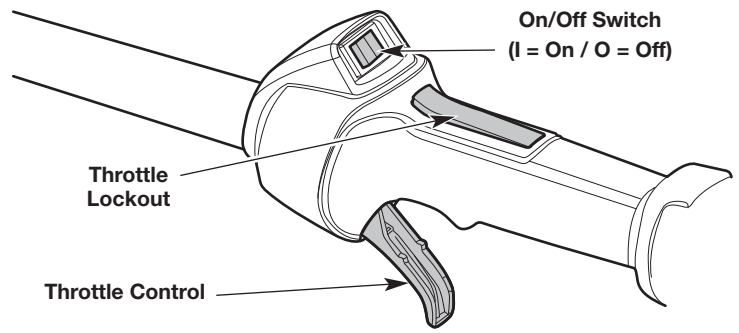

Fig. 11
NOTE: There is no need to turn the unit on. The On/Off switch is in the **On (I)** position at all times (Fig. 11).
5. Press and hold the throttle lockout (Fig. 11). Squeeze and hold the throttle control (Fig. 11).
2. Press and hold the On/Off switch in the **Off (O)** position until the engine comes to a complete stop (Fig. 11).
6. Press and hold the throttle lockout (Fig. 11). Squeeze and hold the throttle control (Fig. 11).